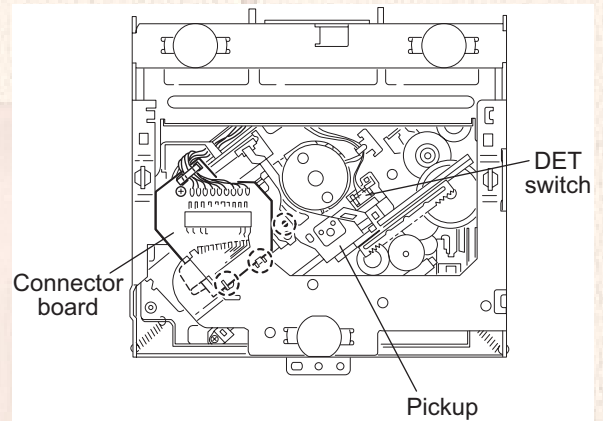

Fig.6
3.2.3 Removing the DET switch (See Figs.6 and 7)